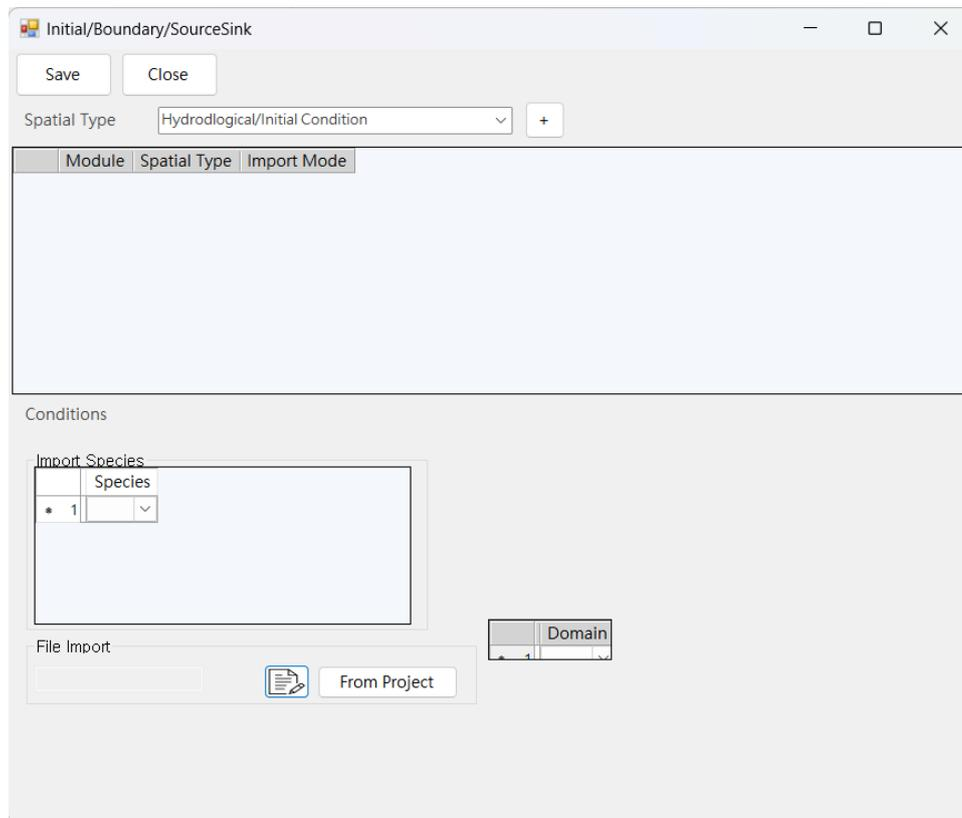

Figure 1.38. Initial/Boundary/SourceSink window.
11. When you click the 'Edit' button, the 'Initial/Boundary/SourceSink' window will pop up as shown in Figure 1.38.